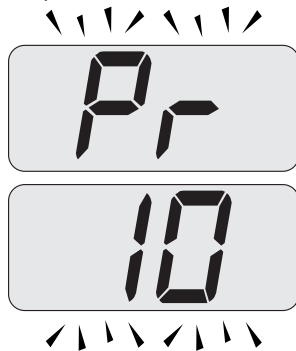

Fig. 8.24
display, indicating that "parameter 10" (Fig. 8.24) has been activated.
- Press keys 9 and 10 (Fig. 8.22) at the same time to exit without changing the value (return to the parameters list Fig. 8.24).